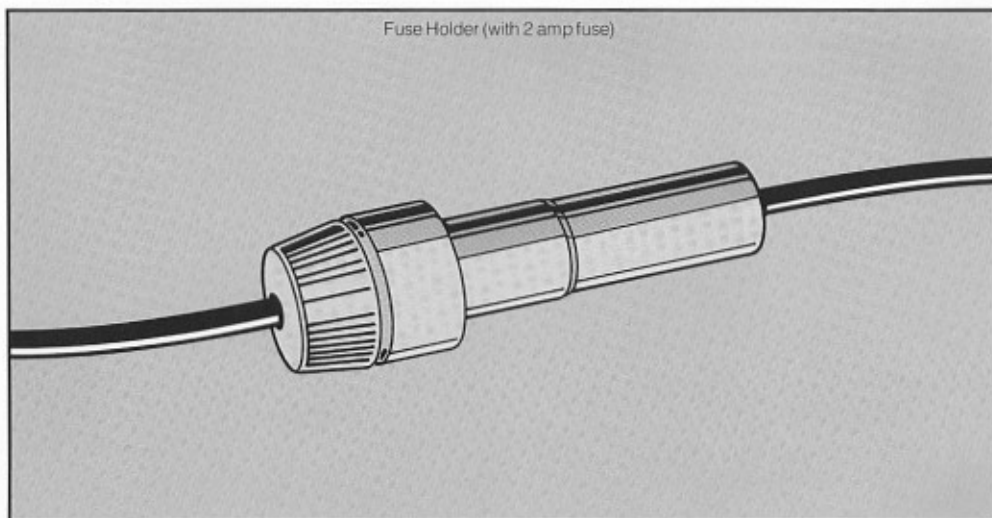

Figure 4. Fusing the speakers. Insert fuse holder between positive speaker wire end and positive speaker terminal.
1. The fuse is inserted into the speaker circuitry by simply wiring a fuseholder to the + (red) terminal of the speaker. **Refer to Figure 4.** The speaker wire then connects to the holder, putting the fuseholder between the speaker's + (red) terminal and the receiver/amp's + terminal.